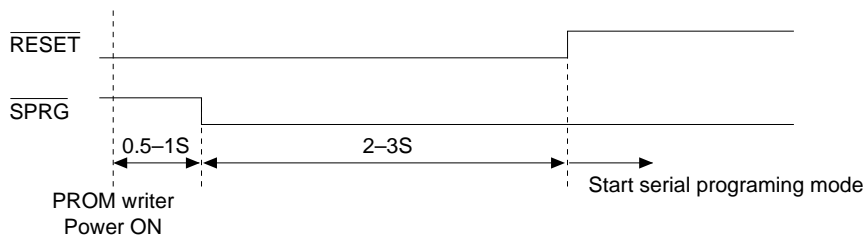

Fig. A.3.3.1 Timing chart for entering serial programming mode
(2) Turn the IC (user target board) power (+5 V) on.
(3) Turn the PROM writer on.
(4) Controls the $\overline{\text{RESET}}$ and $\overline{\text{SPRG}}$ terminals as shown in Figure A.3.3.1.